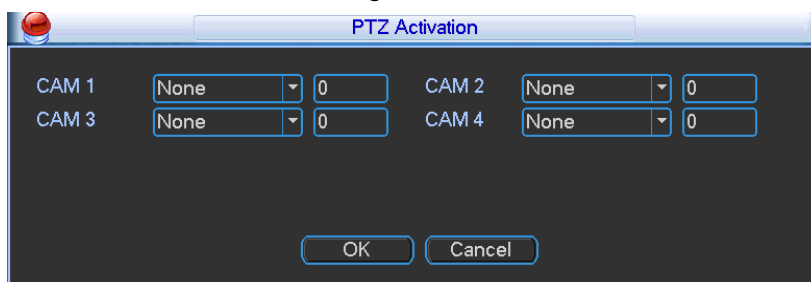

Figure 4-57
- PTZ activation: Here you can set PTZ movement when an alarm occurs. System can go to a preset, when there is an alarm. Click “select” button, you can see an interface is shown as in Figure 4-57.